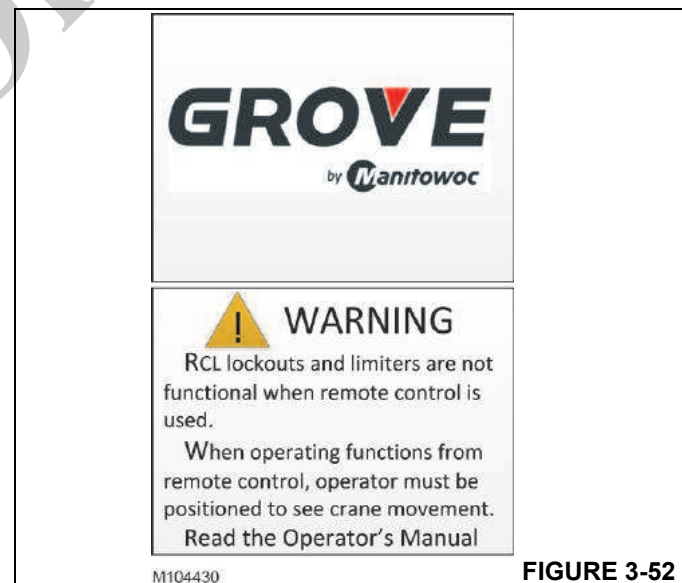

FIGURE 3-52
- c. The SPLASH screen will appear for a few seconds, followed by the WARNING screen, See (Figure 3-52).